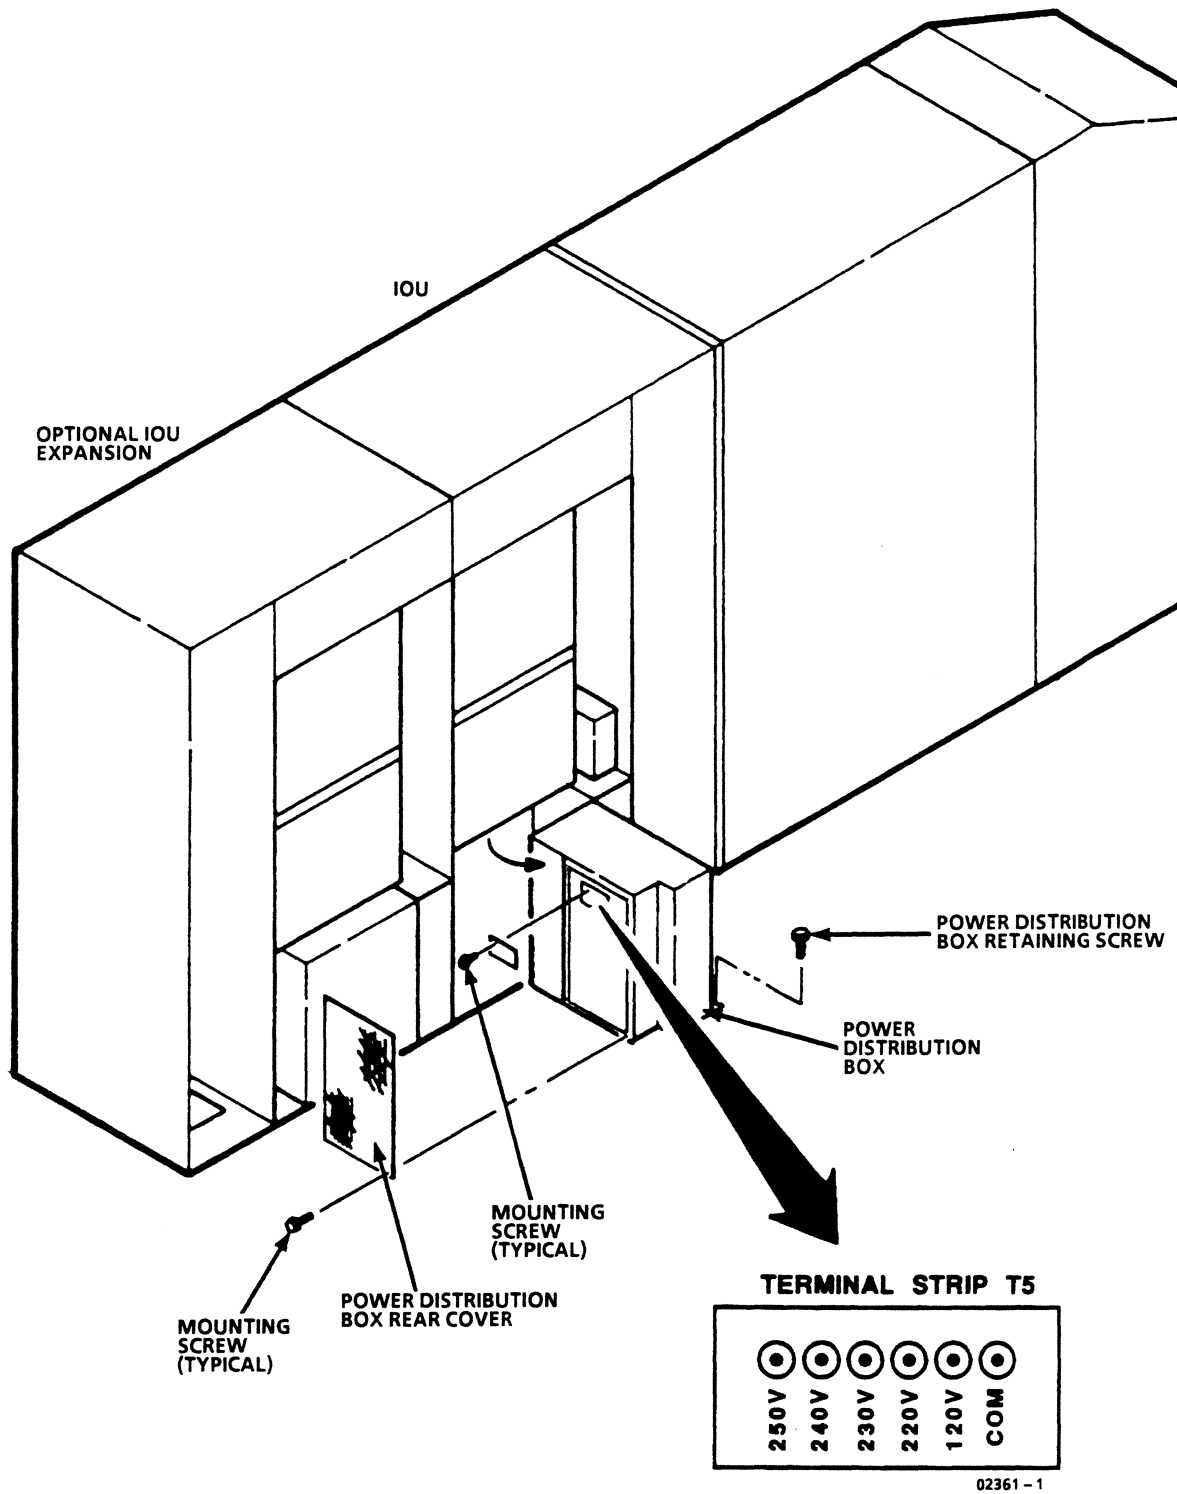

Figure 2-46. IOU Blower Transformer Voltage Taps
- ___ 3. Access blower transformer terminal strip T5 at rear of power distribution box as shown in figure 2-46.